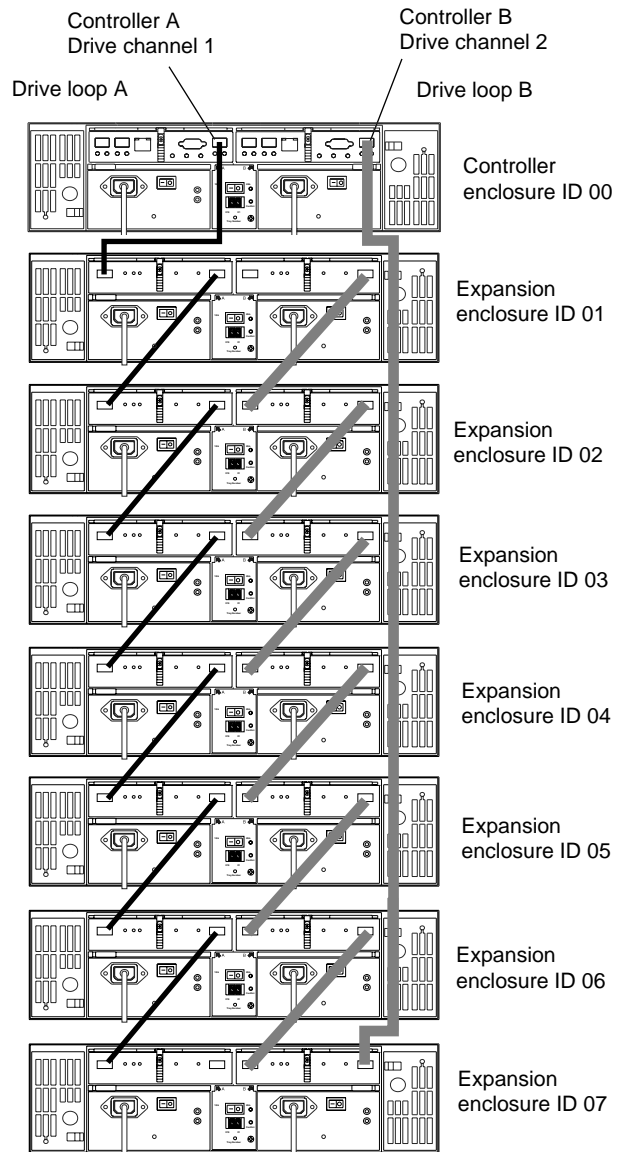

Figure 5-3 Drive Loop Cabling for Systems with Eight Enclosures
- 4. Repeat step 3 to add up to seven expansion enclosures to the drive loop (see Figure 5-3).